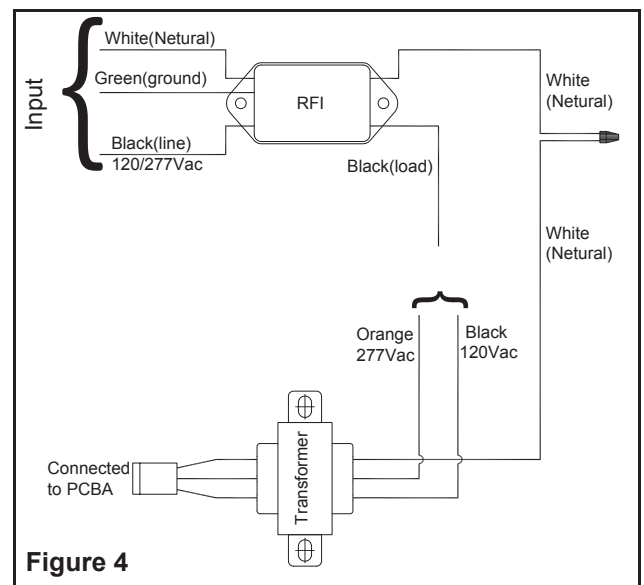

Figure 4
- b. RFI (option): Connect output line (black) from RFI filter to the transformer primary: black (120Vac) or orange (277Vac). Connect RFI filter module to the utility: white wire to neutral, black wire (120/277Vac) to line (See figure 4).